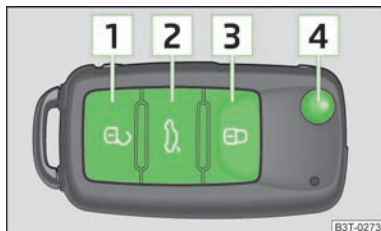

Fig. 13
- Press the button **2** » Fig. 13 for about 0.5 second. Further information » page 41.
- Press the button **2** » Fig. 13 for about 1 second. Further information » page 41.
- Press the button **2** » Fig. 13 for about 1 second. Further information » page 42.
- Press the button **2** » Fig. 13 for about 1 second. Further information » page 45.